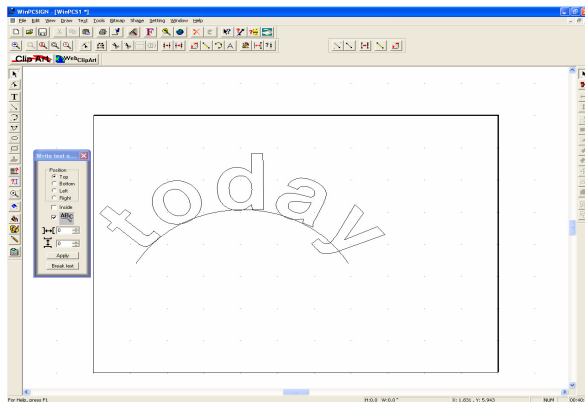
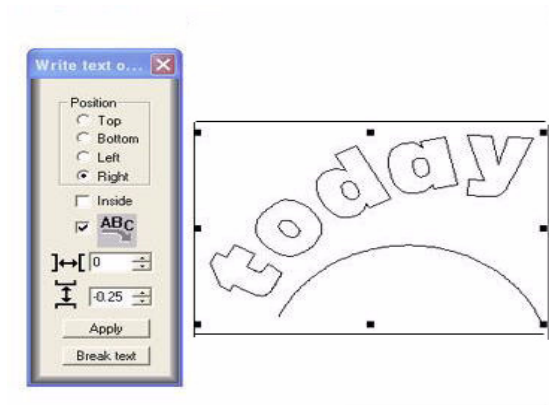

Figure 133 Example of text curved to the top
Figure 134 Example of text curved to right
- 6** In the **Write Text on...** box, select the location on the arc where you want to write the text: top, bottom, left, or right. See figure 133 and figure 134.